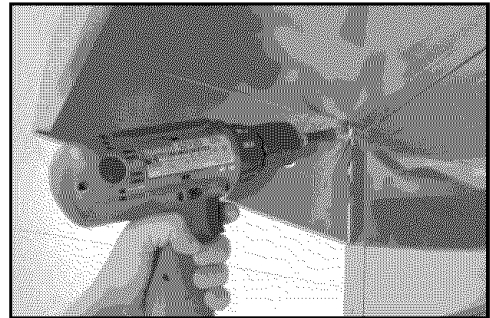

Fig. 2
2. Lock the shelf in place by inserting (2) self tapping screws into shelf. (See Fig. 2)